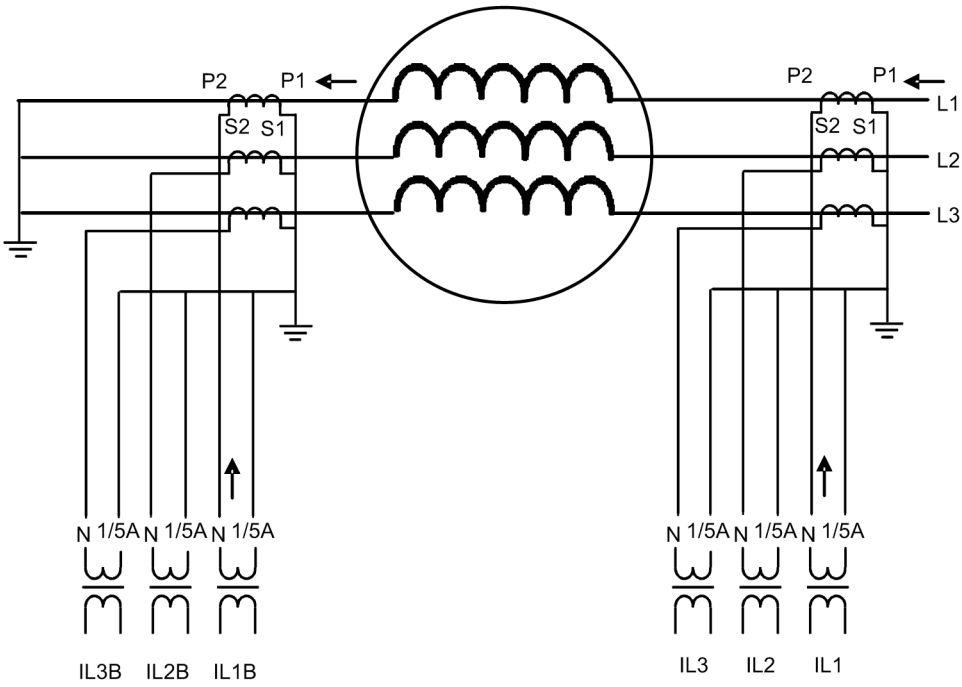
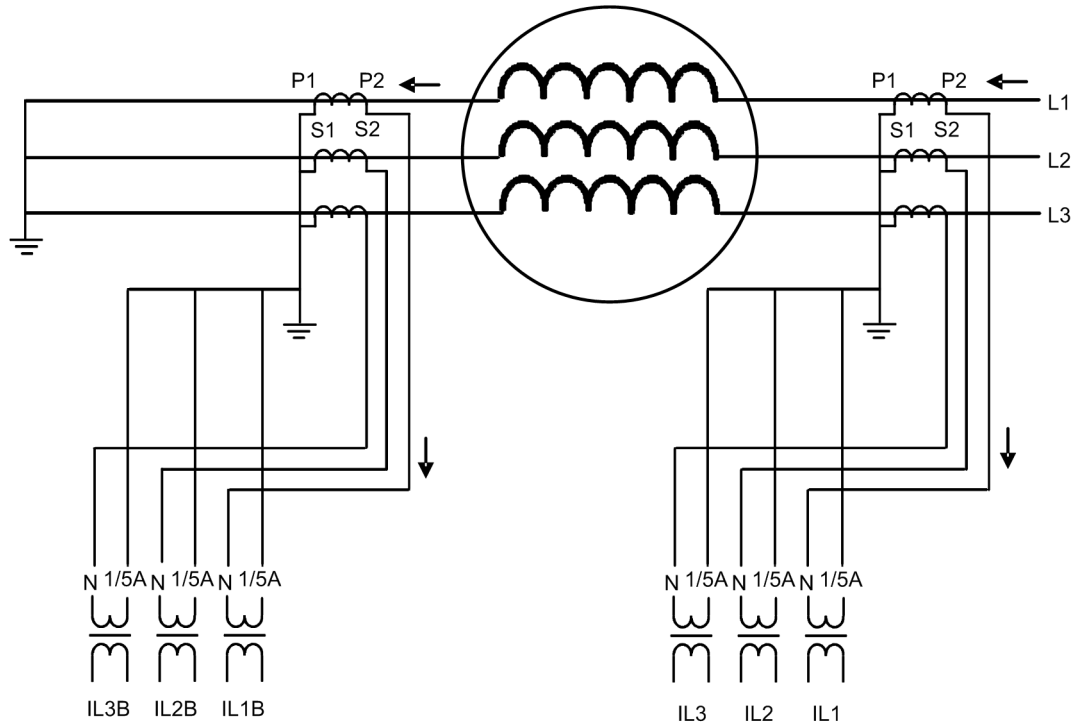

Figure 307: Connection of current transformer of Type 2, example 1
Figure 308: Connection of current transformer of Type 2, example 2
- If the positive directions of the winding 1 and winding 2 protection relay currents equate, the *CT connection type* setting parameter is "Type 2". The connection examples of "Type 2" are as shown in figures Figure 307 and Figure 308.